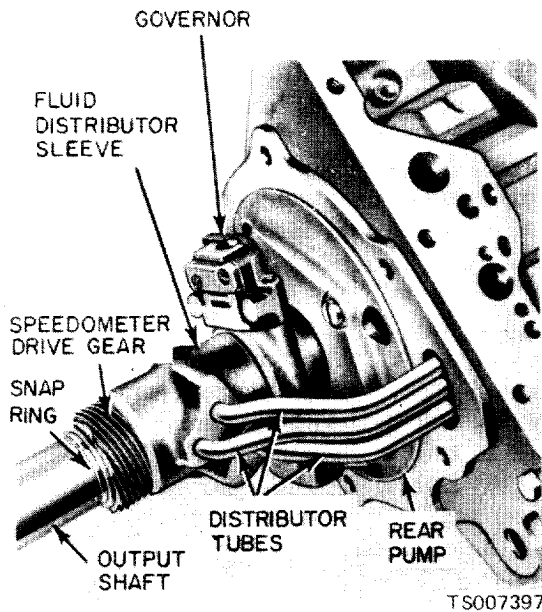

Figure 7-9. Output Shaft and Rear Pump.
(2) Remove the extension housing seal. Remove the lubrication tube from the case. Remove the five transmission to extension housing bolts. These bolts also attach the rear support to the case. Remove the extension housing.
(3) Remove the output shaft assembly (fig. 7-9). Be careful not to bend the pressure tubes between the distributor sleeve and case as the tubes are removed from the case.